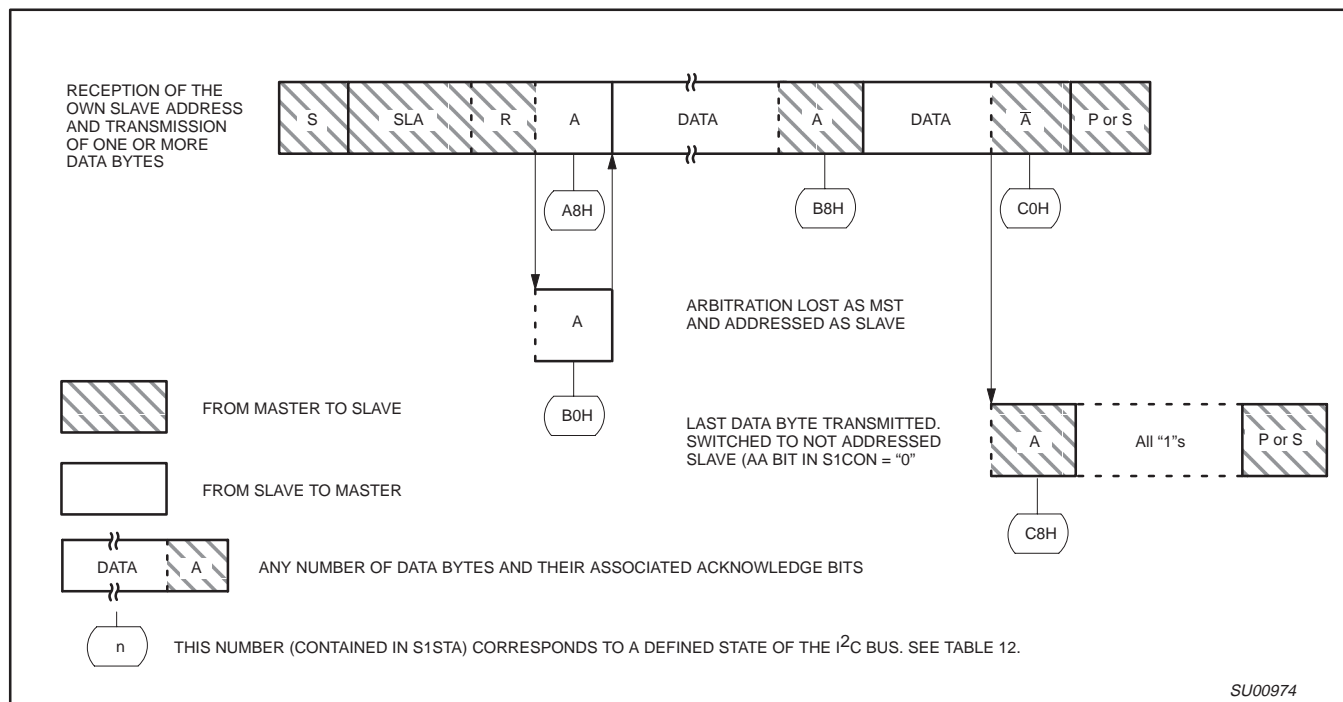

Figure 25. Format and States of the Slave Transmitter Mode
Slave Transmitter Mode: In the slave transmitter mode, a number of data bytes are transmitted to a master receiver (see Figure 25). Data transfer is initialized as in the slave receiver mode. When S1ADR and S1CON have been initialized, SIO1 waits until it is addressed by its own slave address followed by the data direction bit which must be "1" (R) for SIO1 to operate in the slave transmitter mode. After its own slave address and the R bit have been received, the serial interrupt flag (SI) is set and a valid status code can be read from S1STA. This status code is used to vector to an interrupt service routine, and the appropriate action to be taken for each of these status codes is detailed in Table 12. The slave transmitter mode may also be entered if arbitration is lost while SIO1 is in the master mode (see state B0H).